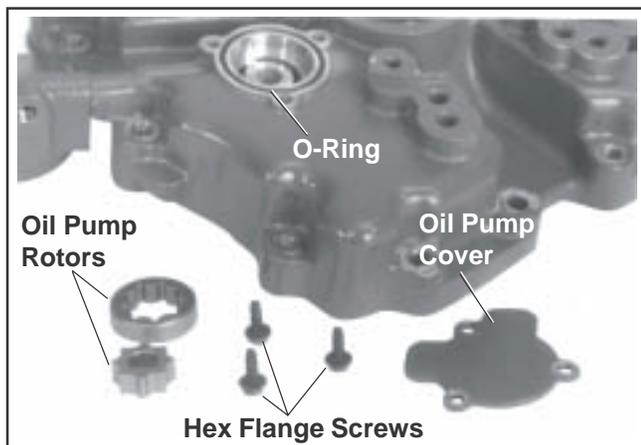

Figure 9-46. Removing Oil Pump.
4. Remove the three hex flange screws, oil pump cover, O-Ring, and oil pump rotors. See Figure 9-46.